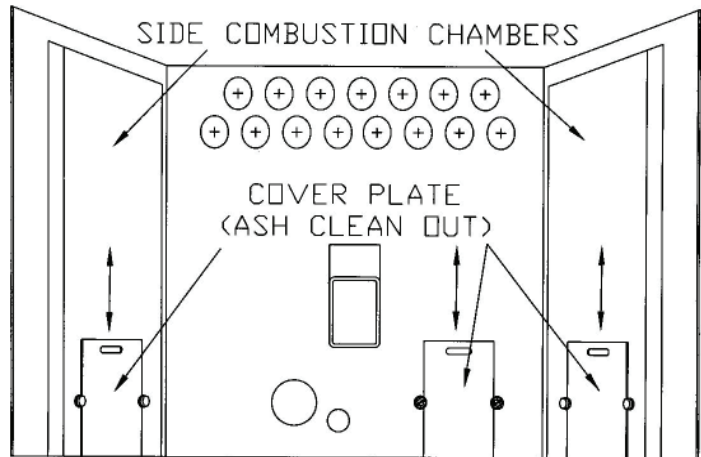

FIGURE 17
- b. **Interior Chambers** – Three ash doors in the firebox in the SP2700 can be removed for periodic cleaning (refer to figure 17). These doors allow access to the chamber surrounding the firebox.